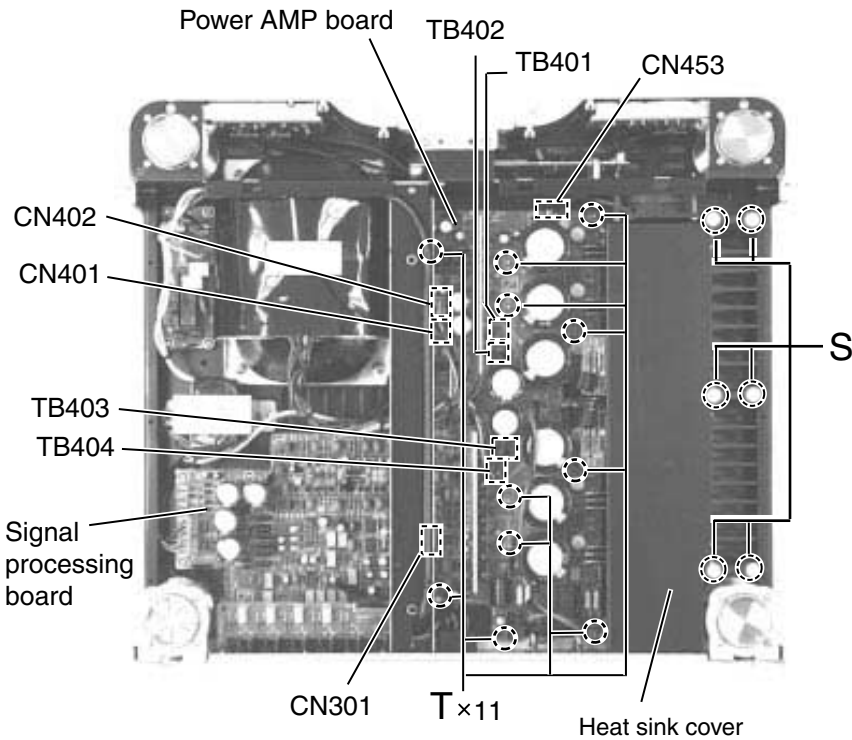

Fig.13
■ Removing the power AMP board assembly / heat sink (See Fig. 13 to 15)
7. After removing each screw U attaching the power AMP sub-board assembly (1) & (2), take off the power AMP sub-board assembly from the heat sink.